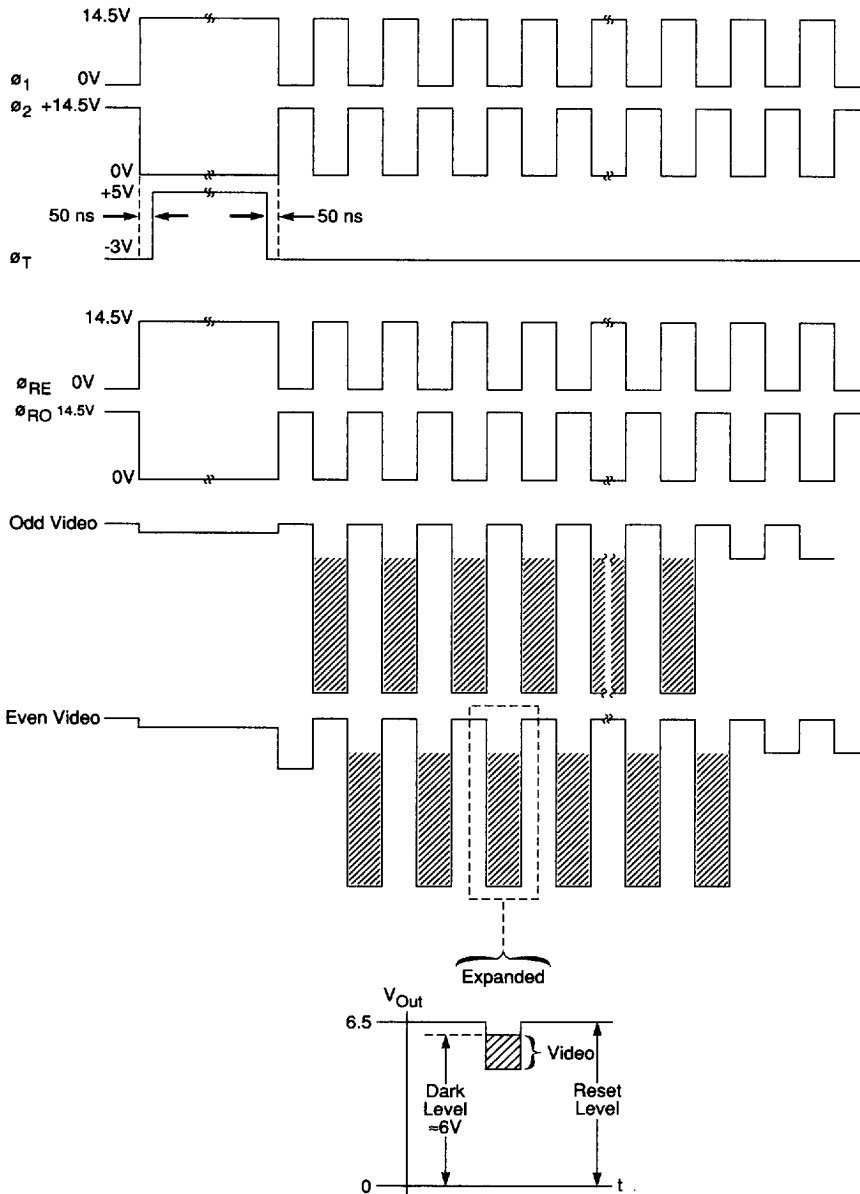
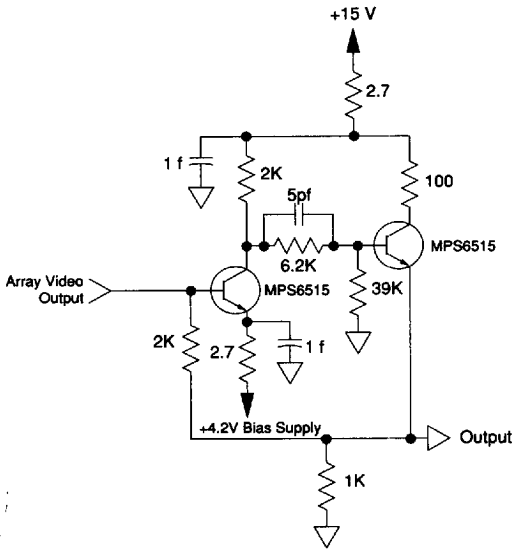

Figure 5. Timing Relationship of the Array's Clocks and Output
Figure 6. High-speed Video Output Buffer
Readout for each block is accomplished by clocking the CCD shift registers so that the charge packets are delivered sequentially into two on-chip charge-detection circuits (refer to Figure 5 for timing). The registers deliver the charge packets alternately, allowing the inactive charge detector to be reset to a fixed level of ϕ_{RE} or ϕ_{RO} while the opposite detector is active. The outputs of the two detectors may then be multiplexed off-chip to obtain a stepwise-continuous video signal.
The transfer pulse, θ_T , should swing between -3 and +5V and have a width greater than 0.5 μ sec. In order to transfer the charge from the photodiodes into the CCD register, the θ_1 clock must remain high during the blanking and transfer interval, as shown in Figure 5. This same figure also shows θ_{RE} , the even reset clock, and its relationship to θ_1 and θ_2 clocks, as well as the odd and even video outputs. The output reset clock, θ_{RO} , can be derived from θ_2 and the even reset clock, θ_{RE} , can be derived from θ_1 , provided the clock crossing requirements described above are met.
A suitable high-speed video output circuit is shown in Figure 6. This circuit is preferable to a 3K Ω load resistor because it reduces the current demand while maintaining speed capabilities.
Video Output waveforms shown in Figure 5 typify video output performance as measured across a 3K load resistor. The rise and fall times are relative since they are affected by capacitive loading, including oscilloscope probe capacitance. For data rates greater than 3 MHz, an output circuit such as Figure 6 is recommended and video rise and fall times of 50 ns or less are typical.
- 7 See Figure 6 for output schematic